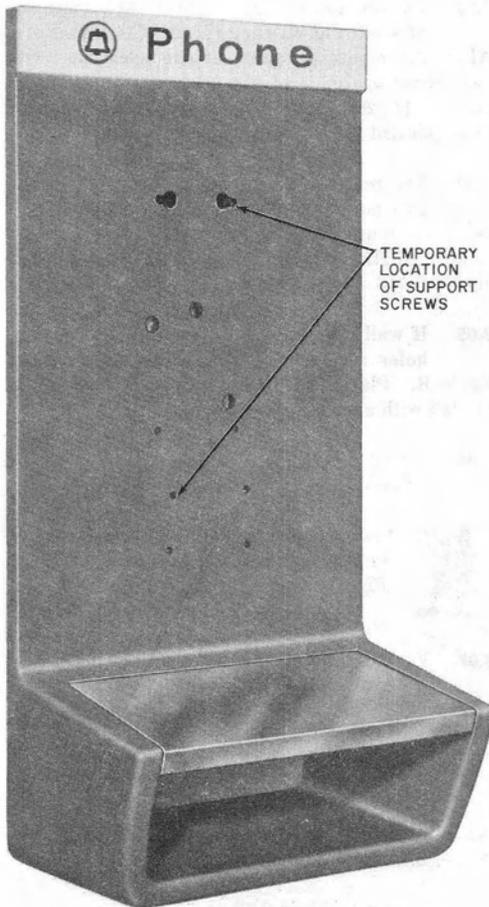

Fig. 4—KS-19945, List 14 Coin Telephone Shelf
- (1) Shelf with a solid backplate (Fig. 4) for fitting over a 174A or 178A backboard.
3.03 Utilizing the top-right keyhole slot in backplate of shelf (Fig. 4) hang the shelf on this screw. Align the mounting holes of the backplate with the mounting holes of the backboard and install another 1/4-20 by 5/8 RHM screw in lower portion of backboard.
Security studs must be used. They will go through shelf and backboard (Fig. 4).